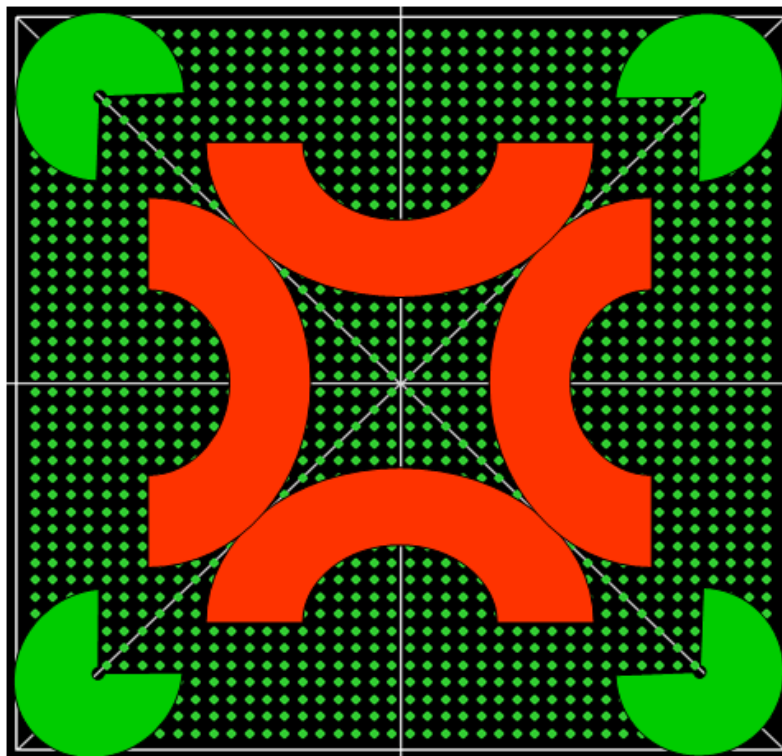
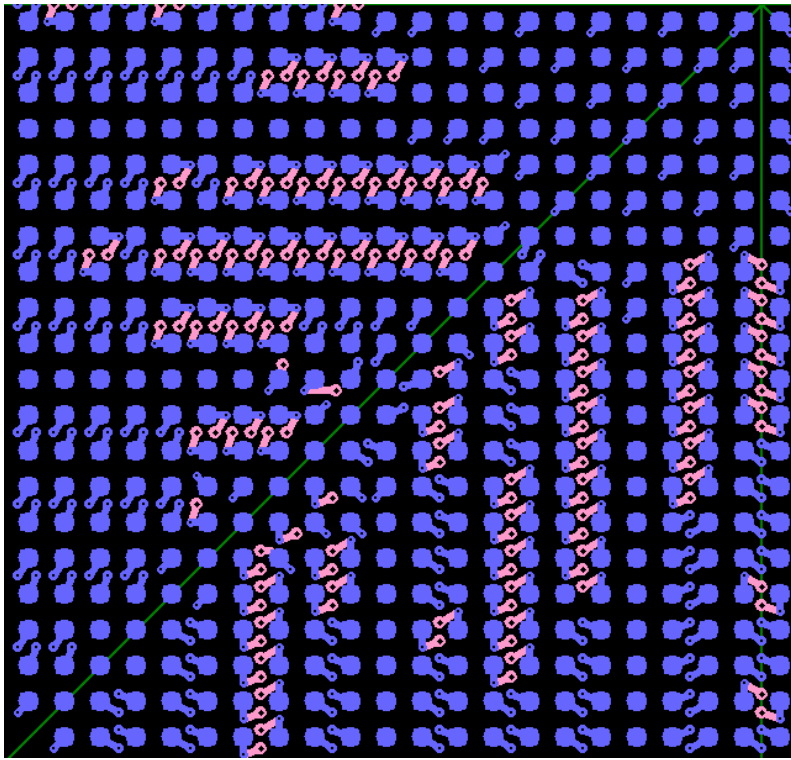

Figure 10 – Red = Difficult, Green = Easy
Figure 11 – Alternating Via Patterns, 1-3 versus 1-2 & 2-10
- Extremely dense BGAs. In Figure 10, you can see the areas that are easy to breakout (green) and the difficult areas (red). To breakout the red areas using minimum layers on a very dense BGA will require contortion of the fanout via patterns simply because there is so little available space and each area needs to be customized as is the case with any very dense PCB routing. This is illustrated in the alternating via patterns shown in Figures 11 thru 12.